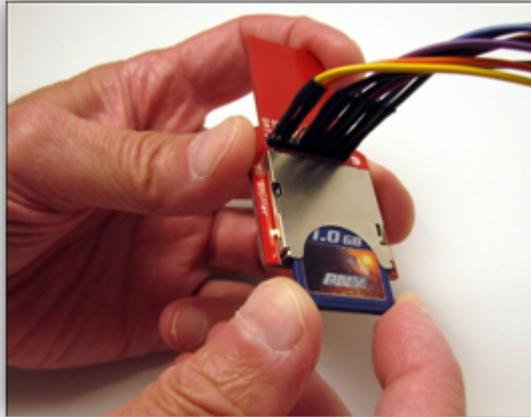

Figure 2.41 - Device Under Test Connection Setup
1. Insert the Device under Test (DUT), such as a micro SD MMC memory card into the slot on the IC board (Figure 2.41).